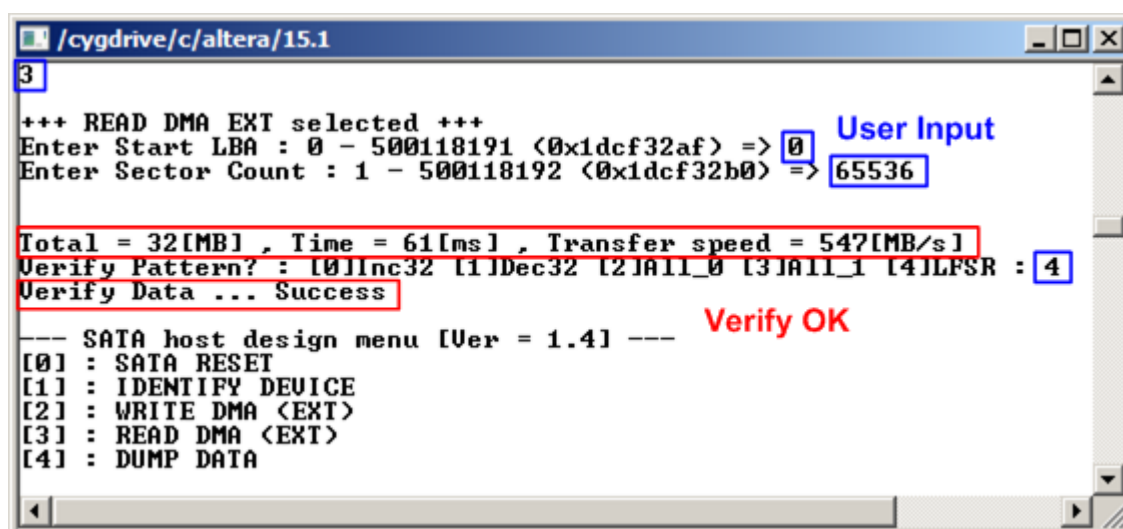

Figure 2-6 READ COMMAND with verify successful
- Verify Pattern (Optional): this value is used for selecting verification pattern. This input should be matched with the pattern in WRITE DMA (EXT) menu. Five verification patterns can be selected, similar to write pattern. "Verify Data ... Success" is displayed for success case, and "Data Mismatch with failure value" is displayed for failure case, as shown in Figure 2-6 and Figure 2-7 sequentially.